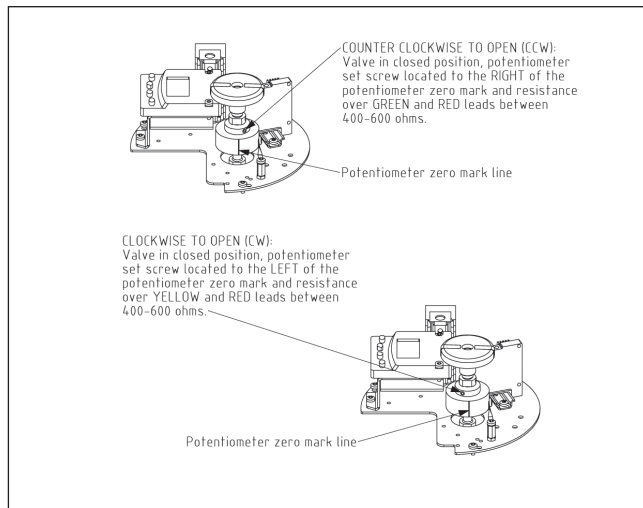

Fig. 48. Potentiometer operation.
- Adjust the potentiometer unit to correct angle by rotating the inner section of the potentiometer (smaller diameter cylindrical part on top side of the potentiometer unit). The correct angle depends on the valve operation orientation; CCW or CW to open (see Fig. 48). The centerline mark on the potentiometer side helps aligning the potentiometer for initial position. Make sure that the valve and axis stay stationary in closed position when adjusting the potentiometer orientation.